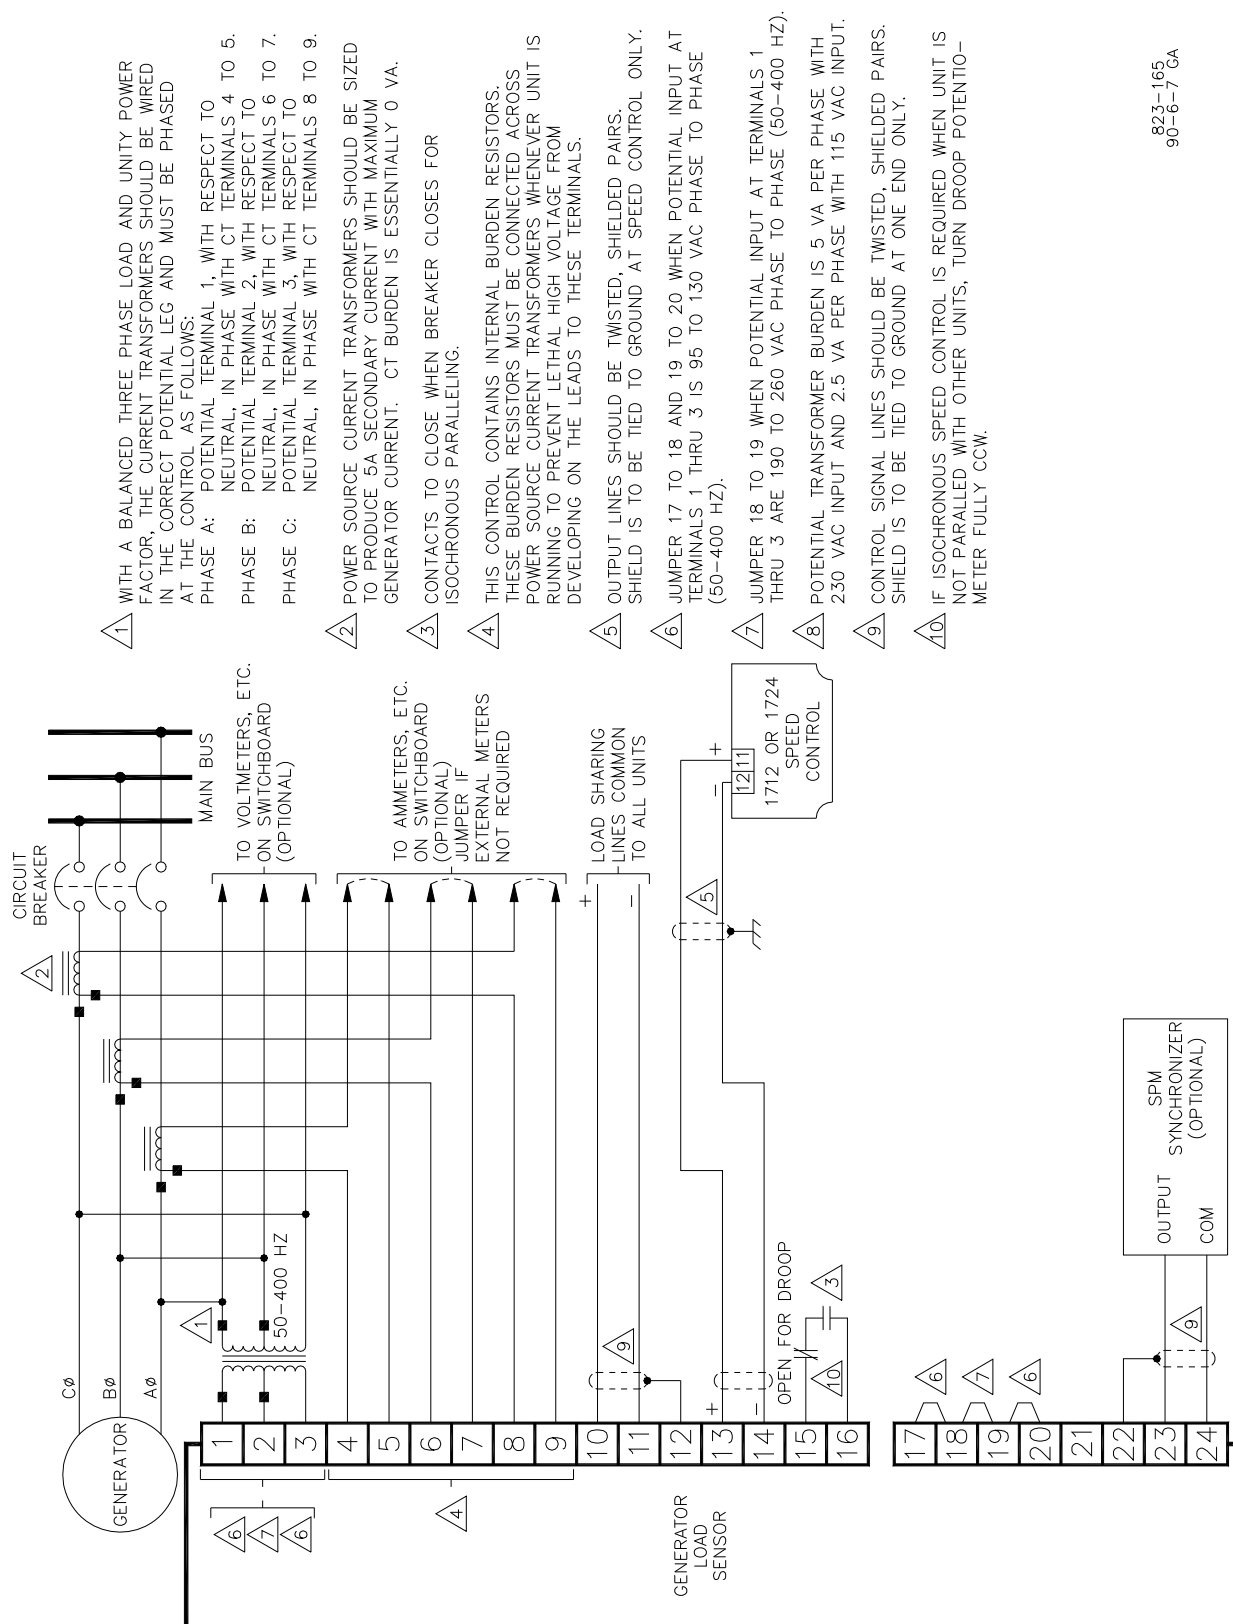

Figure 3-3. Plant Wiring Diagram of Generator Load Sensor
The power supply generates a regulated dc voltage for the operation of the circuits in the Load Sensor. The power supply gets its power from two of the three phase-potential connections which are made to the output of the generator set being controlled. Jumper wires on terminals 17 through 20 provide for selection of input voltages of either 95 to 130 Vac or 190 to 260 Vac. The plant wiring diagram (Figure 3-3) shows these connections and jumpers. Do not connect inputs to Terminals 17 through 20.
Figure 3-3 is the plant wiring diagram for the Generator Load Sensor. This drawing shows the connections that must be made to this unit, but does not show the actual wiring for a particular system. For this information, see the plant wiring diagram for your specific system. Woodward manual 25070, *Electronic Governor Installation Guide*, also contains general information on wiring for electronic controls.
Some of the wiring to the Load Sensor must be twisted-pair, shielded; these wires are shown in Figure 3-3. This shielding prevents the wires from picking up stray signals which could cause erratic control operation. Ground the shield to the system ground as shown in the plant wiring diagram (Pin 12 or Pin 22 on this control). The shield on a length of shielded wire must be connected to ground at one end only; do not ground the shields on both ends of a wire. Do not run a shielded wire inside a conduit with a wire which is carrying high current. Do not attempt to tin the braided shields.
1. Check that the correct jumpers are installed on terminals 17, 18, 19, and 20 to match your potential transformer secondary voltage. See the plant wiring diagram (Figure 3-3).